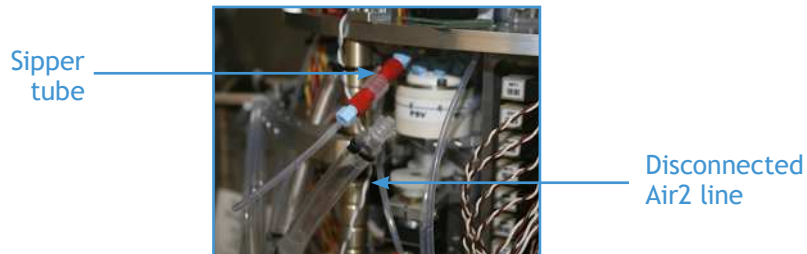

Figure 1-8: ESP sipper tube connected to Air2 line
- c. Connect an ESP access tube to the portion of the line coming from the CSV (see Figure 1-8).